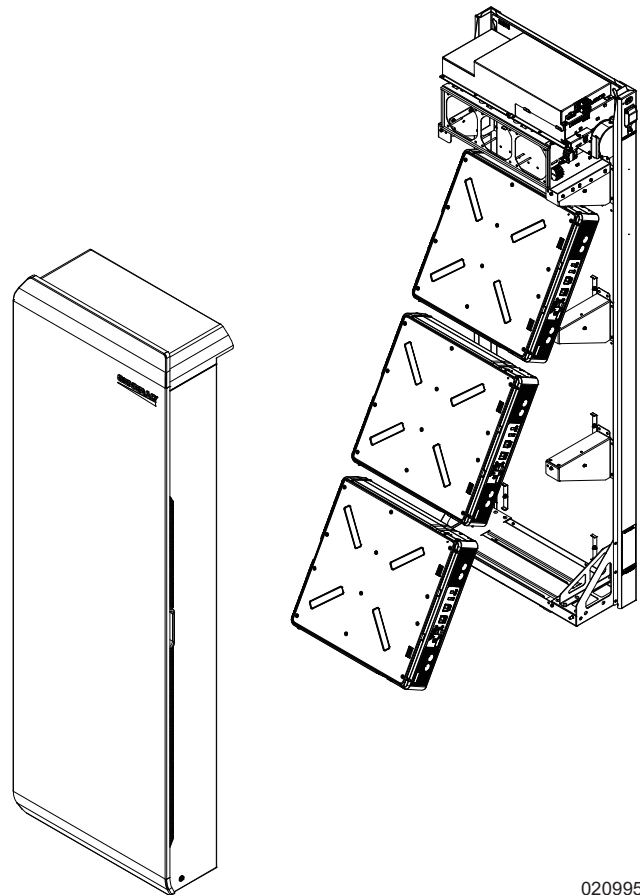

Figure 4-13. Installing Rear Battery Modules (2 of 2)
2. Slide the bottom of the battery module to the back of PWRcell Battery enclosure (E).
3. Verify the battery module rests against the grounding clips (F) factory-installed to the enclosure.
4. See Figure 4-13. Install all rear modules before installing grounding tabs and front modules.